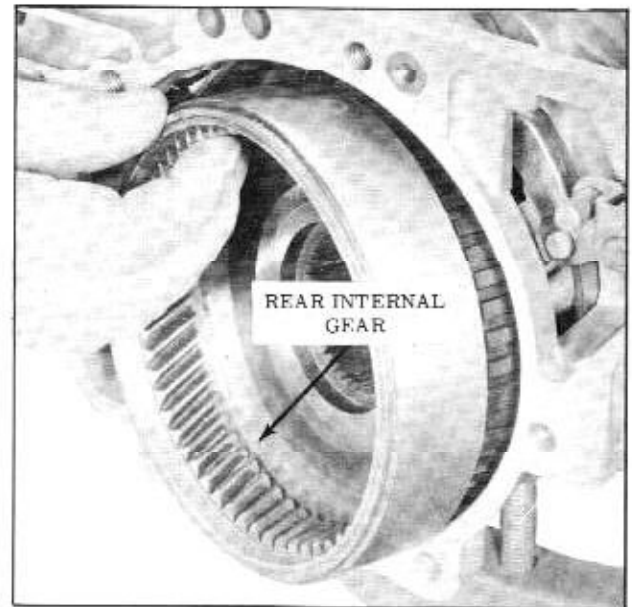

Figure 3-50 Removing Internal Gear
7. Make certain parking pawl is disengaged, then remove the rear unit internal gear and sprag assembly. (Fig. 3-50)